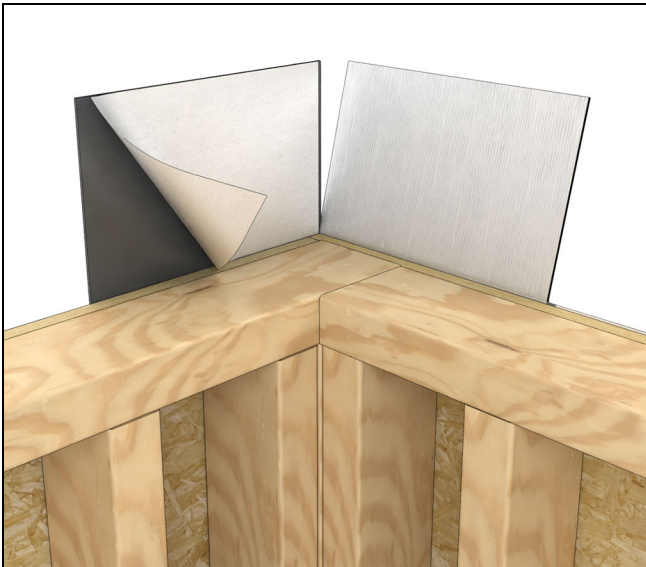
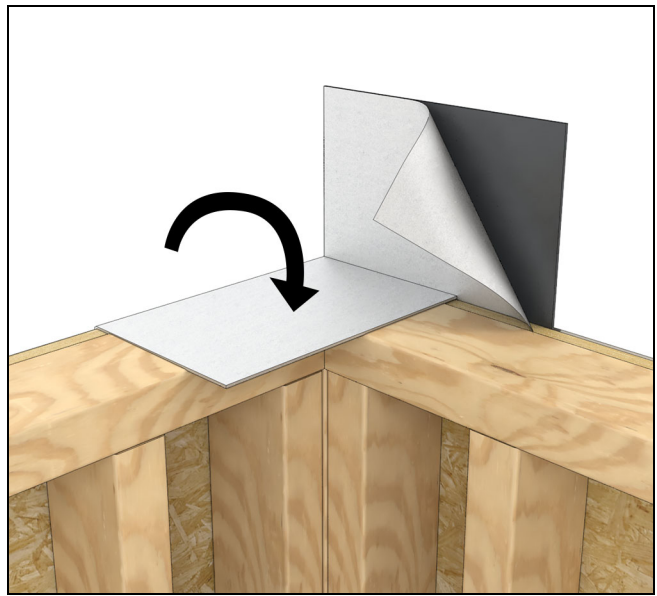
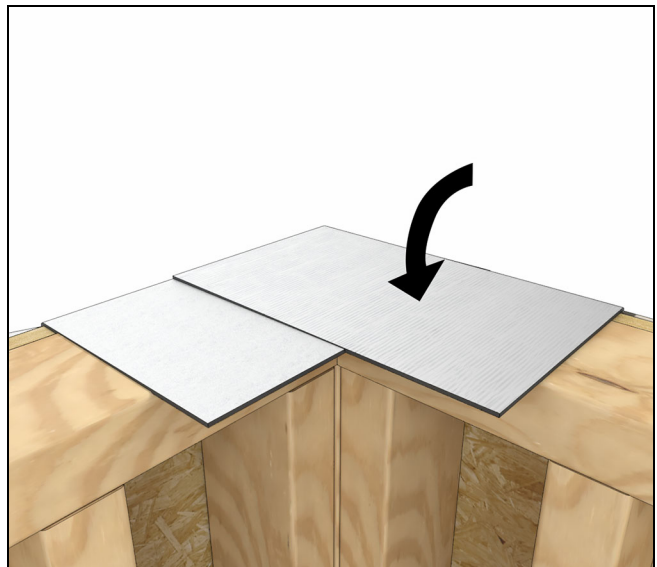

Figure 18
Figure 19
Figure 20
7. Remove the backing from the top section on one side and adhere to the opening. Then repeat on the opposite side. See Figure 18, Figure 19, and Figure 20.